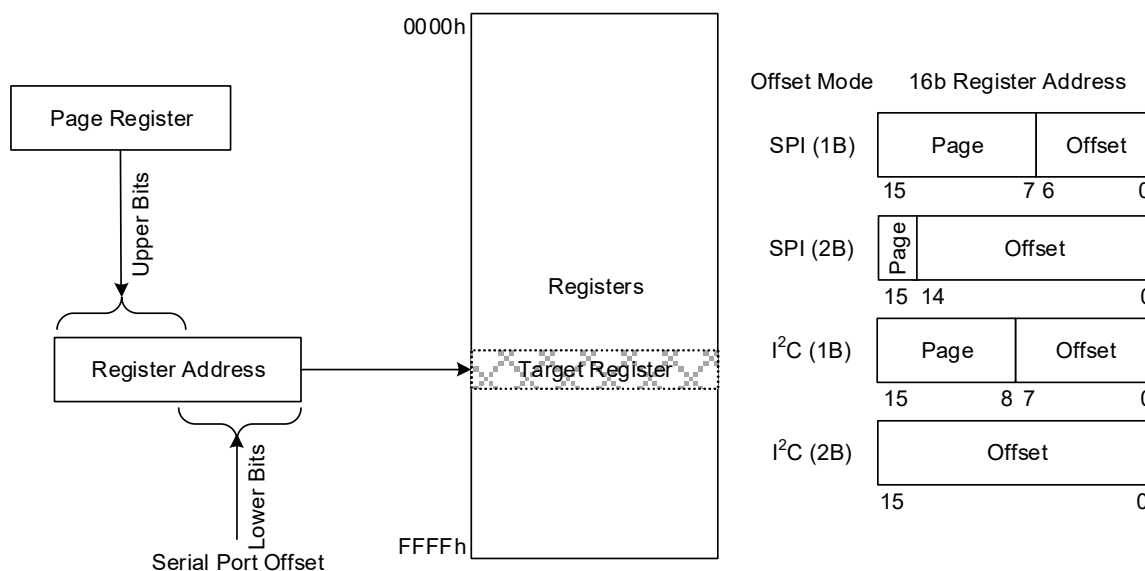

Figure 15. Register Addressing Modes Using Serial Port
You can choose to operate the serial port providing the full offset address within each burst, or to operate in a paged mode where part of the address offset is provided in each transaction and another part comes from an internal page register in each serial port. Figure 15 shows how page register and offset bytes from each serial transaction interact to address a register within the RC22504A.
The selection of 1-byte (1B) or 2-byte (2B) offset addressing must also be configured using the `ssi_addr_size` register field. These offsets are used in conjunction with the page register to access registers internal to the device (see Figure 15). Because the I²C protocol already includes a read/write bit with the Dev Addr, all bits of the 1B or 2B offset field can be used to address internal registers.
- 1-byte (1B) or 2-byte (2B) offset addressing (`ssi_addr_size`) (see Figure 15)